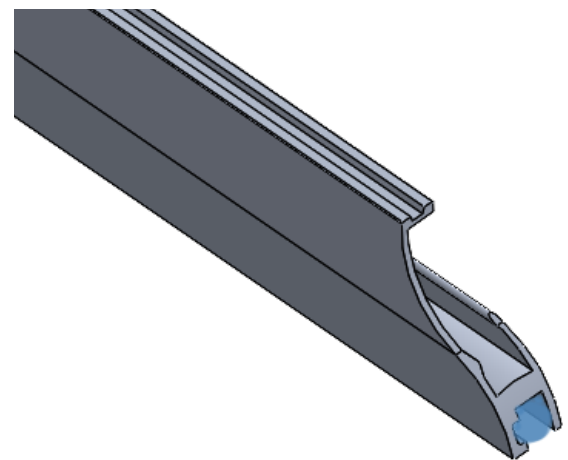

FIG 24.
- When you are confident the track fits neatly and correctly in place, remove sliding door track and place a generous bead of silicone in the underside groove of the sliding door track (FIG 24). **DO NOT PUT THE SILICONE BEAD ABOVE THE DOORWAY.**